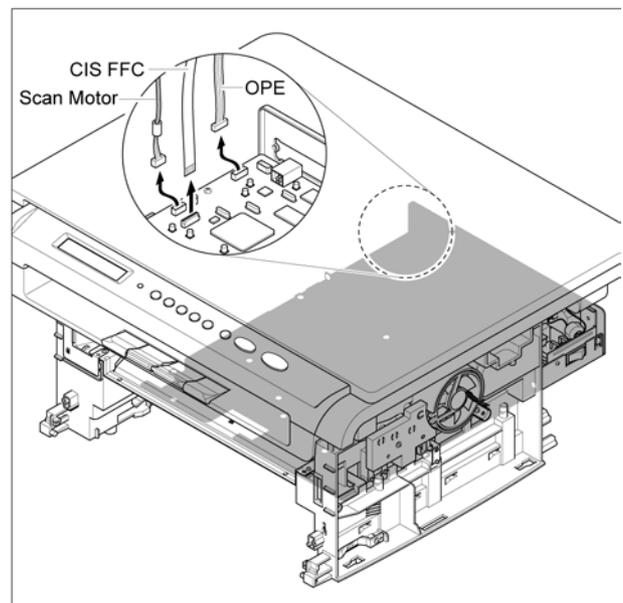

Figure 1
3. Release the adjustable cable tie and disconnect CN 8, CN 13 and CON 14 from the Main PBA, Figure 1.